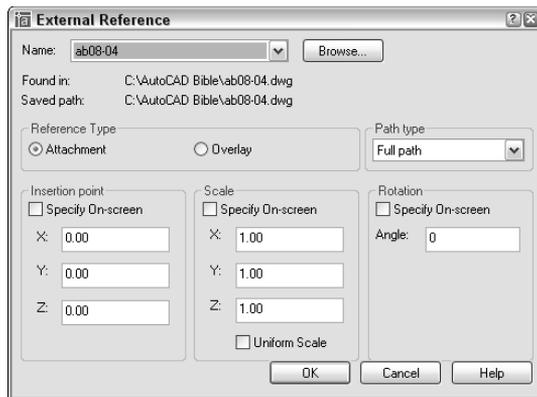

Figure 19-2: The External Reference dialog box.
2. To attach an external reference, choose Attach in the Xref Manager to open the Select Reference File dialog box. Choose the file you want to attach and click Open. The External Reference dialog box (shown in Figure 19-2) opens. The dialog box displays the file you chose along with its path (location).